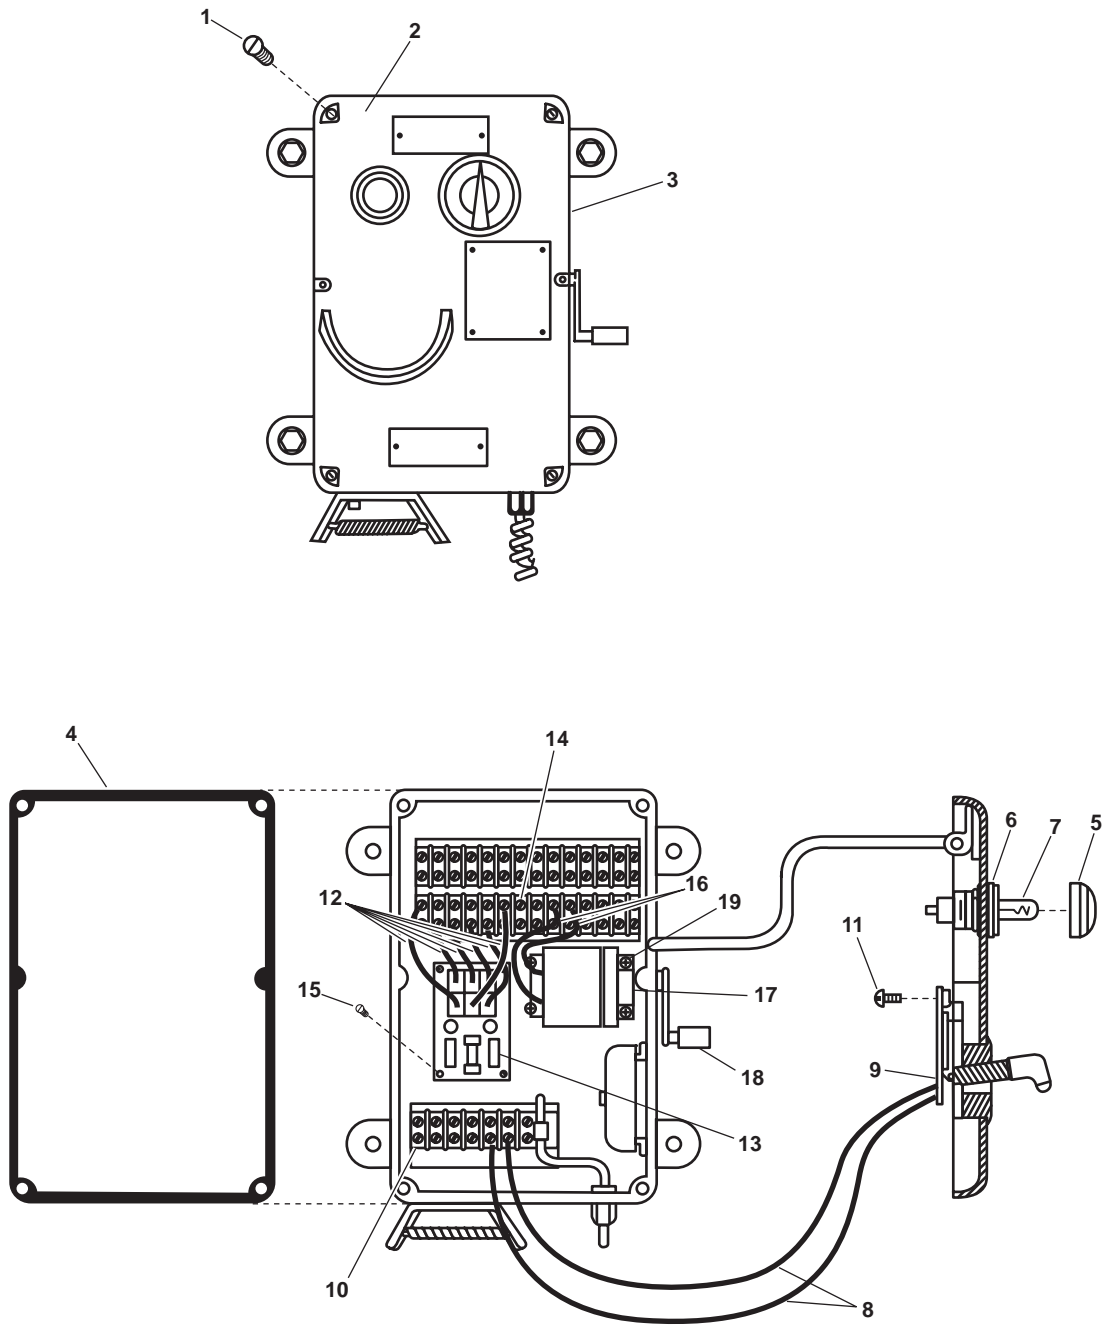

Figure 3. Sound Powered Telephone SWLR-243J
1. Remove the four screws (figure 3, item 1) from the SWLR-243J telephone cover (figure 3, item 2).
2. Remove the SWLR-243J telephone cover (figure 3, item 2) from the SWLR-243J telephone junction box (figure 3, item 3).
3. Remove the gasket (figure 3, item 4) from the SWLR-243J telephone junction box (figure 3, item 3).
1. Install the gasket (figure 3, item 4) on the SWLR-243J telephone junction box (figure 3, item 3).
2. Install the SWLR-243J telephone cover (figure 3, item 2) on the SWLR-243J telephone junction box (figure 3, item 3).
3. Install the four screws (figure 3, item 1) in the SWLR-243J telephone cover (figure 3, item 2).
1. Remove the lens (figure 3, item 5) from the SWLR-243J light assembly (figure 3, item 6).
2. Remove the lamp (figure 3, item 7) from the SWLR-243J light assembly (figure 3, item 6).
1. Install the lamp (figure 3, item 7) in the SWLR-243J light assembly (figure 3, item 6).
2. Install the lens (figure 3, item 5) on the SWLR-243J light assembly (figure 3, item 6).
3. Label and remove the wiring (figure 3, item 8) of the hook switch (figure 3, item 9) from the terminal board (figure 3, item 10).
4. Remove the two screws (figure 3, item 11) from the hook switch (figure 3, item 9).
5. Remove the hook switch (figure 3, item 9) from the SWLR-243J telephone cover (figure 3, item 2).
1. Install the hook switch (figure 3, item 9) on the SWLR-243J telephone cover (figure 3, item 2).
2. Install the two screws (figure 3, item 11) in the hook switch (figure 3, item 9).
3. Connect the wiring (figure 3, item 8) of the hook switch (figure 3, item 9) to the terminal board (figure 3, item 10) using the labels from step 3 of Removal as a guide. Remove the labels.
4. Install the SWLR-243J telephone cover (figure 3, item 2) on the SWLR-243J telephone junction box (figure 3, item 3).
5. Install the four screws (figure 3, item 1) in the SWLR-243J telephone cover (figure 3, item 2).
3. Label and remove the wiring (figure 3, item 12) of the relay (figure 3, item 13) from the terminal board (figure 3, item 14).
4. Remove the four screws (figure 3, item 15) from the relay (figure 3, item 13).
5. Remove the relay (figure 3, item 13) from the SWLR-243J telephone junction box (figure 3, item 3).
1. Install the relay (figure 3, item 13) in the SWLR-243J telephone junction box (figure 3, item 3).
2. Install the four screws (figure 3, item 15) in the relay (figure 3, item 13).
3. Connect the wiring (figure 3, item 12) of the relay (figure 3, item 13) to the terminal board (figure 3, item 14).
3. Label and remove the wiring (figure 3, item 16) of the hand ringing generator (figure 3, item 17) from the terminal board (figure 3, item 14).
4. Remove the manual control handle (figure 3, item 18) from the hand ringing generator (figure 3, item 17) by turning it counterclockwise.
5. Remove the four screws (figure 3, item 19) from the hand ringing generator (figure 3, item 17).
6. Remove the hand ringing generator (figure 3, item 17) from the SWLR-243J telephone junction box (figure 3, item 3).
1. Install the hand ringing generator (figure 3, item 17) in the SWLR-243J telephone junction box (figure 3, item 3).
2. Install the four screws (figure 3, item 19) in the hand ringing generator (figure 3, item 17).